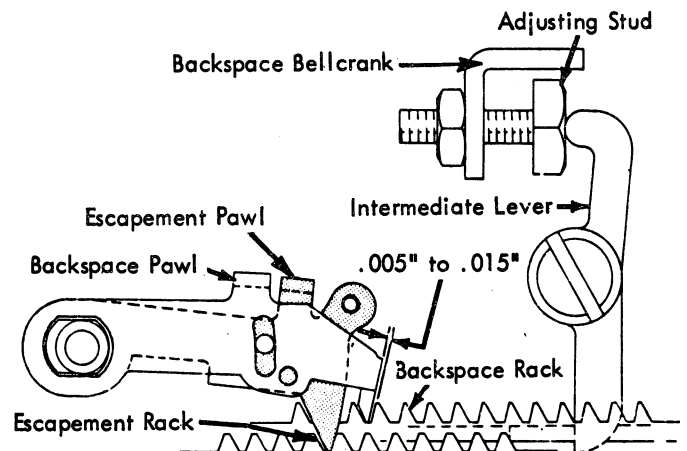

FIGURE 200. Backspace Rack Adjustment
3. **Backspace Rack** - With the backspace rack in the rest position, a clearance of .005" to .015" should exist between the working surfaces of the rack tooth and the backspace pawl (Fig. 200). Adjust the hexagon headed stud in the backspace bellcrank to obtain this condition.